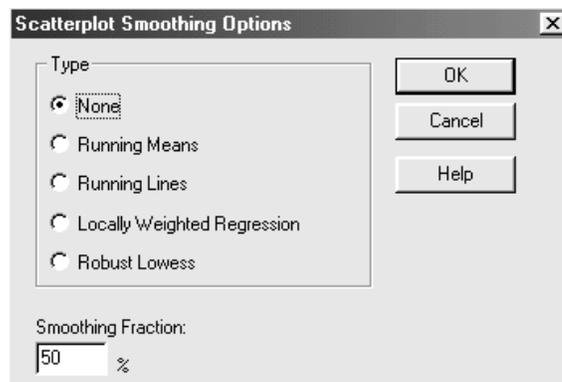

Figure 5-22. Scatterplot Smoothing Options Dialog Box
2. Click the Smooth/Rotate button on the Analysis toolbar to display the Scatterplot Smoothing Options dialog box (see Figure 5-22).